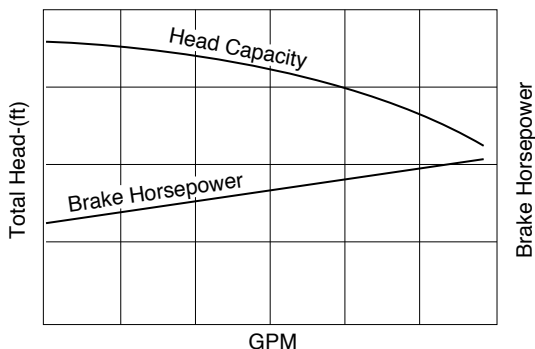

FIGURE 46. Brake-Horsepower-Capacity Curve
- A curve (Figure 46), which represents the relationship between brake horsepower and capacity, is plotted based on the same constant factors as outlined previously.